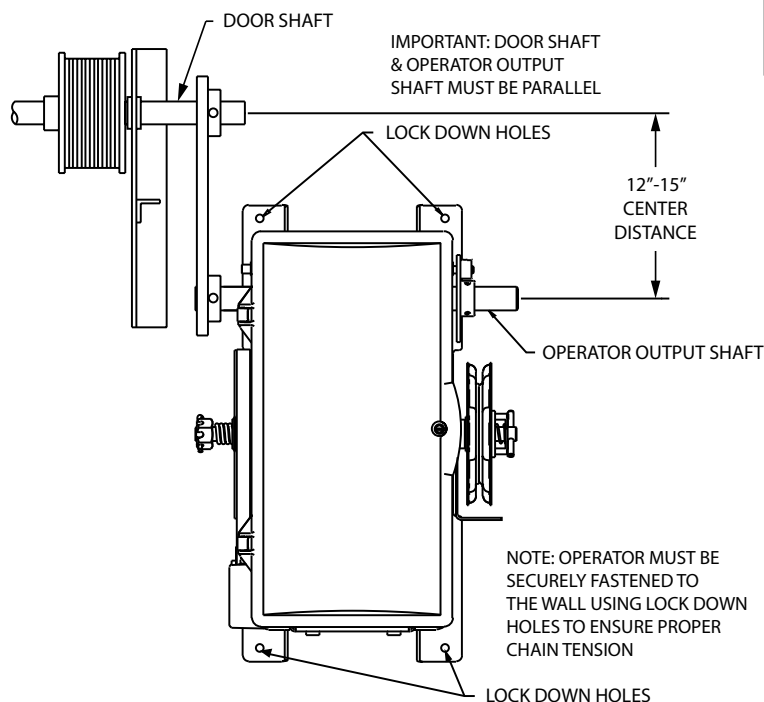

Fig. 5B
8. Align chain and secure operator to wall or mounting pad. Fig.5B.
**NOTE:** If using slotted mounting holes to mount unit, you must use at least 2 lockdown holes in opposite corners to firmly mount unit to wall. Fig. 5B